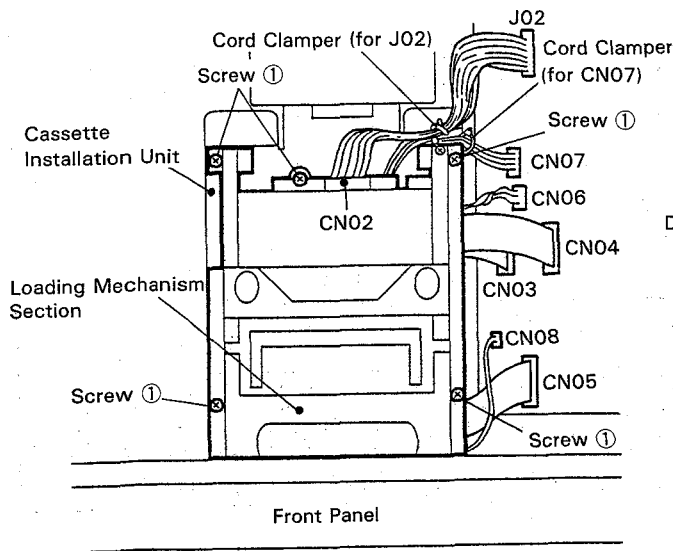

Fig. 1
3. Remove the five screws ① and remove the loading mechanism section. (Refer to Fig. 1.)